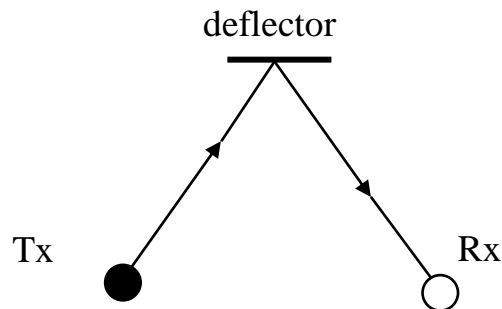

Fig.10.1
10.1. If it is necessary to create breaking of the detection zone, the sensors “FMW-3”, “FMW-3/1”, “FMW-3/2” can be used with the deflector (fig.10.1).